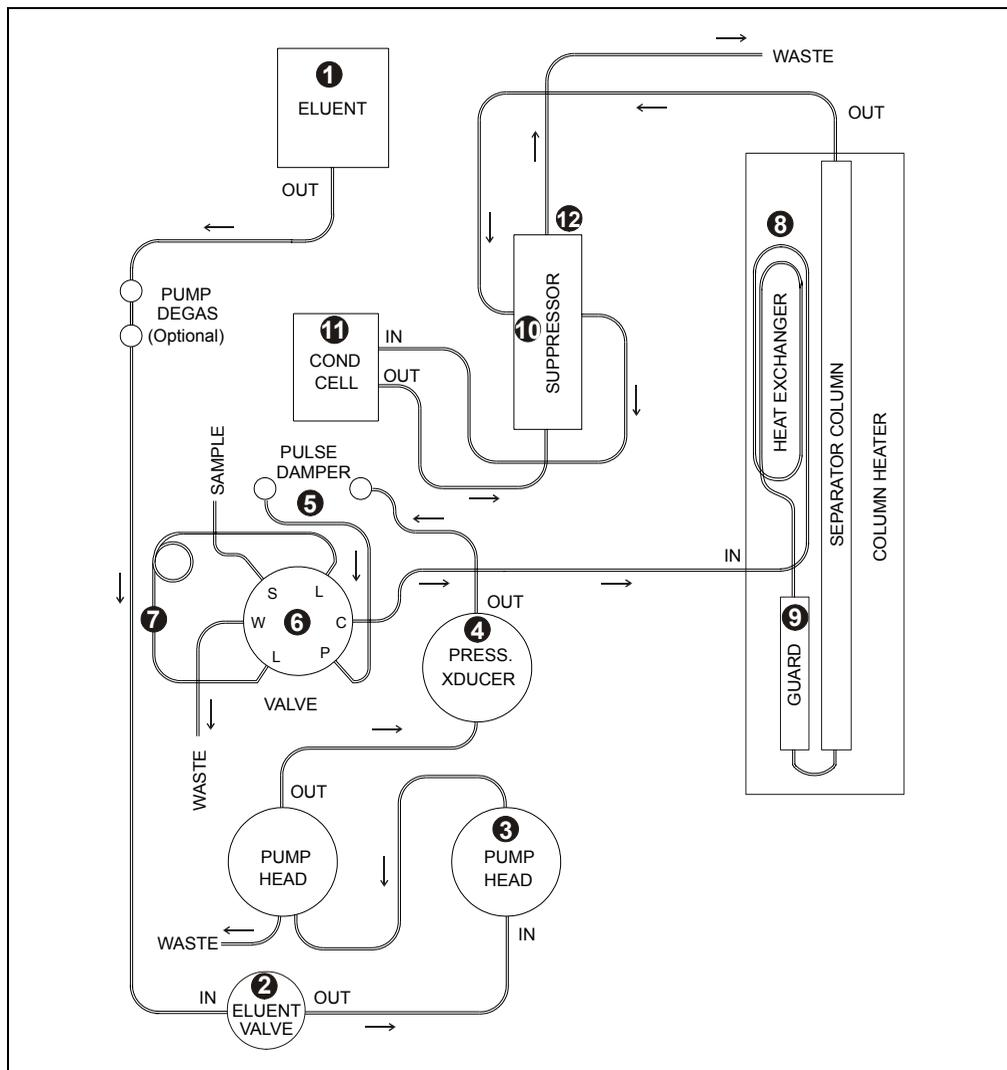

Figure 5-7. ICS-1500 Flow Schematic
2. Follow the ICS-1500 flow schematic in Figure 5-7 and work backward through the system, beginning at the suppressor **Regen Out** exit. One at a time, loosen each fitting and observe the pressure. The connection at which the pressure drops abnormally indicates the point of restriction.